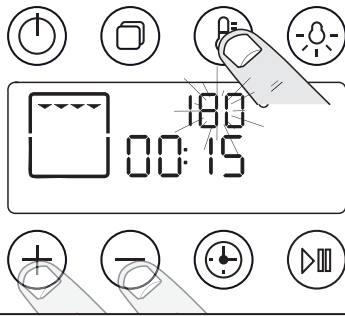

Fig. 5.16
3. To adjust the cook period, tap the timer button once, to adjust the hours use the [+] or [-] buttons (**Fig. 5.16**). Tap the timer button again to adjust the minutes. The cook duration symbol [I->] will flash during this procedure.